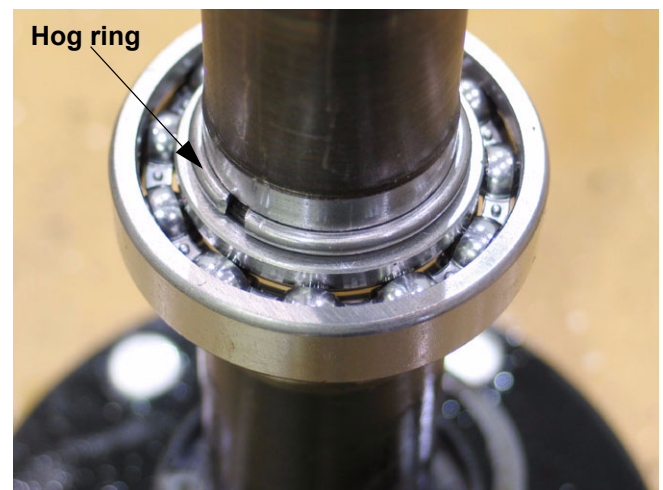

Figure 2.5
- 2.5. Secure the bearing with a new hog ring. the hog ring can be driven into place with an old bearing or appropriate size piece of tubing. See Figure 2.5.